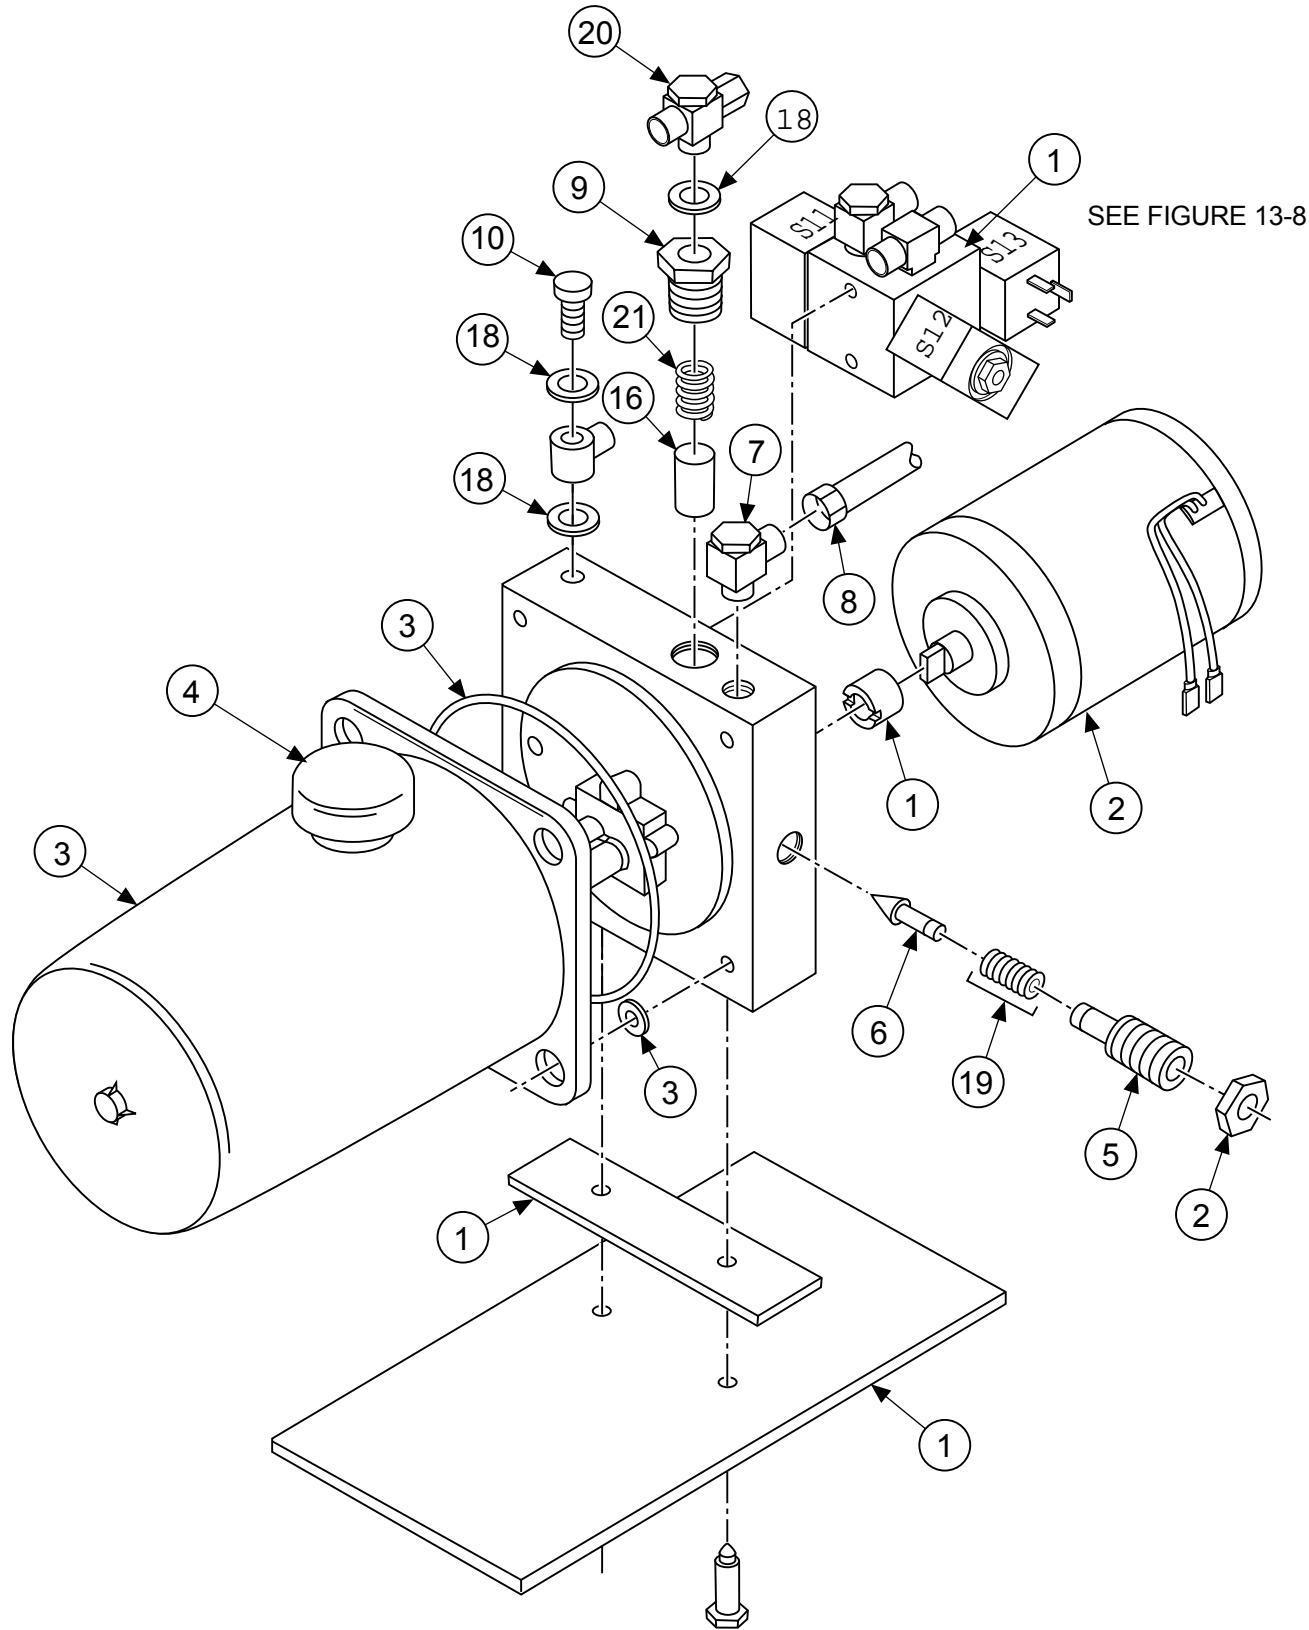

FIGURE 13-7. Motor and Pump Assembly
* This is not a field replaceable item. If this part fails, the pump and motor assembly must be replaced, see Figure 13-7.